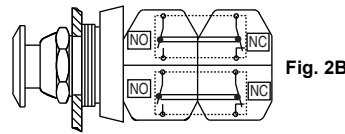

Fig. 2B
a) Use an E-Stop button conforming to EN 418. It must have (2) Normally Closed (N.C.) contact blocks. The contact blocks must conform to EN 60947-5-1 positive-opening operation. □□□□
b) Use a start/reset momentary pushbutton with a single contact block with (2) circuits (1) Normally Open (N.O.) and (1) N.C. If two separate blocks are used, the N.O. must be assembled to the operator first and the N.C. assembled on it, so that if the N.O. welds, the N.C. will be held open and a fault detected (See Fig. 2B).
This device conforms to the requirements of EN574 IIIC of less than 0.5 sec. of synchronous actions of two buttons. Use only pushbuttons with two direct-opening contact blocks; each contact block must have a N.O. and N.C. If four separate blocks are used, the N.O. must be assembled to the operator first, and the N.C. assembled onto it, so that if the N.O. welds, the N.C. will be held open and a fault detected (See Fig. 2B). The two-hand buttons and safety relay must be installed in the same enclosure (IP54 minimum). Wires leading from the two-hand buttons to the relay must be separated to prevent undetected shorts between lines.